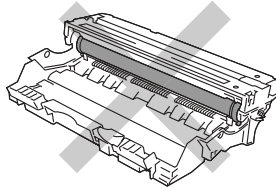

Figure 5-14
- Do not touch the shaded parts shown in Figure 5-14.